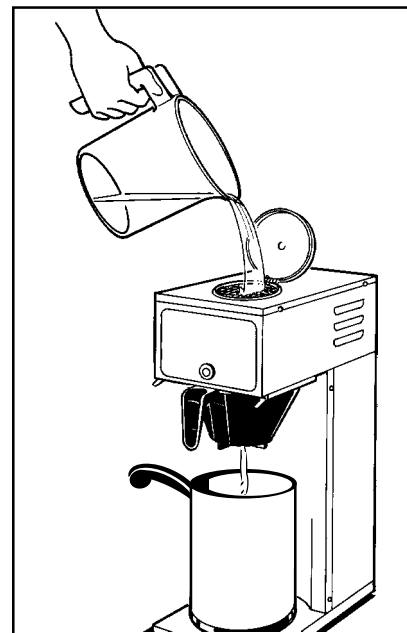

Figure 1. Filling the Heating Tank
4. Pour water into the pour hole on top cover of the brewer (fig 1). When water starts to come out from the sprayhead, the tank is full. Stop pouring.